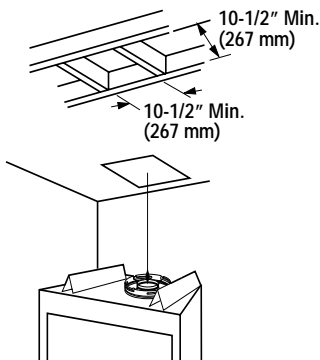

Figure 17
A. Frame ceiling opening - Use a plumb line from the ceiling above the appliance to locate center of the vertical run. Cut and/or frame an opening, 10-1/2" x 10-1/2" (267mm x 267mm) inside dimensions, about this center mark (**Figure 17**).